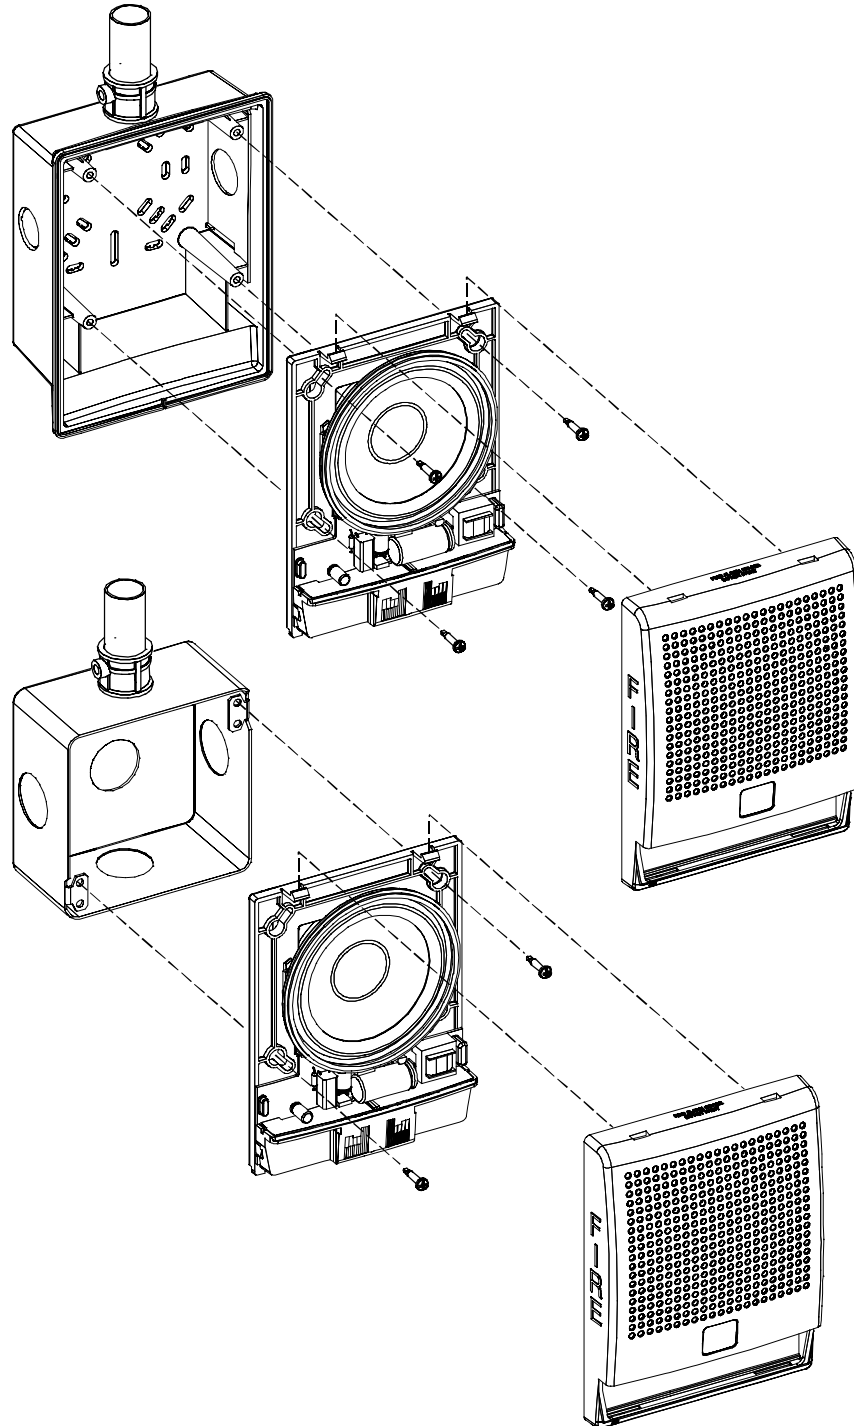

Figure 5: Mounting details
6. Mount the unit onto a compatible electrical box. See Figure 5.